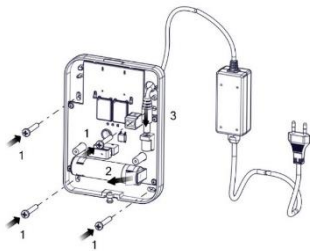

Figure 2
2. Punch out holes for the mounting screws and for the entry of the power wires and then mount the repeater on the wall (see Figure 2).
3. Remove the battery divider and then connect a power source of 10 to 16 volts AC or DC to the AC/DC terminals (see Figure 2).